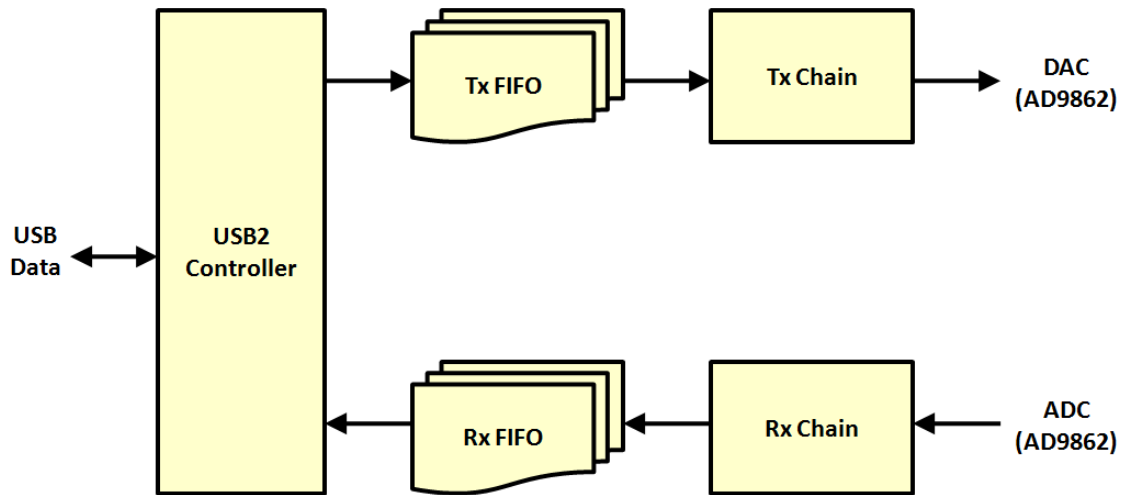
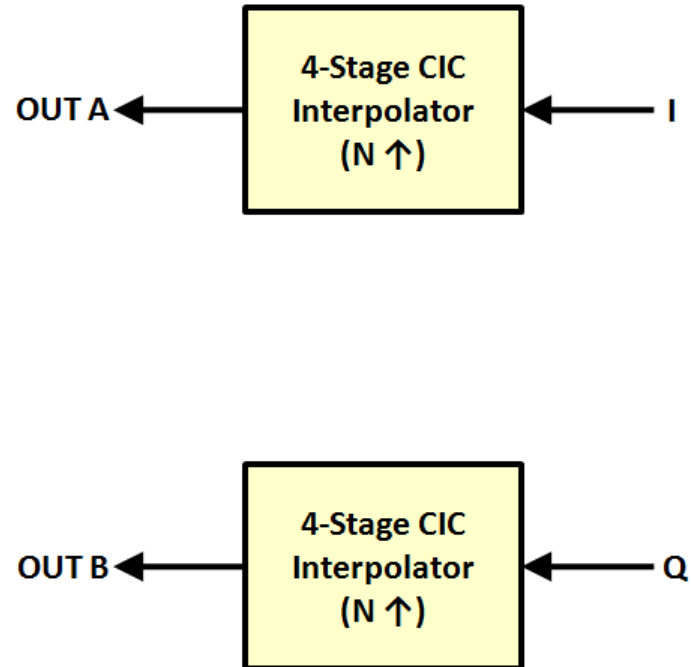

Figure 2.8: Data flow through the USRP. GNU Radio passes data to and from the USRP via the USB2 controller and the USRP handles the remaining signal processing.
Figure 2.9: Tx data flow through the USRP. The remainder of the digital upconversion process is handled by the AD9862.
The USRP exchanges data with the GNU Radio software via USB2. Data prepared for transmission first passes through a USB2 controller and then enters the Tx FIFO, which holds 4,096 lines of 16-bit data. From there, the data passes through the Tx Chain (see Figure 2.9) and then to the AD9862, which converts it to analog signals suitable for RF transmission and passes it along to the RF card. Data received on the RF card first enters the AD9862, which converts it to digital signals, then proceeds to the Rx Chain (see Figure 2.10). Next, this data enters the Rx FIFO ($4,096 \times 16$) while it waits for the USB2 controller to send it through to the GNU Radio software [30]. Figure 2.8 illustrates this process.
processing for outgoing data. The role of the USRP hardware is to transform these baseband signals into an intermediate frequency (IF) band and then present the result to the Analog Devices AD9862 mixed signal processor, which prepares it for the RF daughtercard. The USRP supports two complex transmitters and so does the new firmware. However, the CubeSat SDR uses only one complex transmitter. Therefore, the figures in this chapter will display only one transmission path. Figure 2.9 shows the transmission data path through the USRP (the “Tx Chain” in Figure 2.8).
Similarly, GNU Radio handles the baseband processing for incoming data. Thus, the role of the USRP is to receive digital data from the AD9862 processor and then downconvert that data to baseband for GNU Radio. The USRP supports two full receivers or four receivers without the halfband filters. Because the CubeSat SDR platform uses only one complex receiver, the figures in this chapter will display only one receive path. Figure 2.10 shows the receive data path through the USRP (the “Rx Chain” in Figure 2.8).